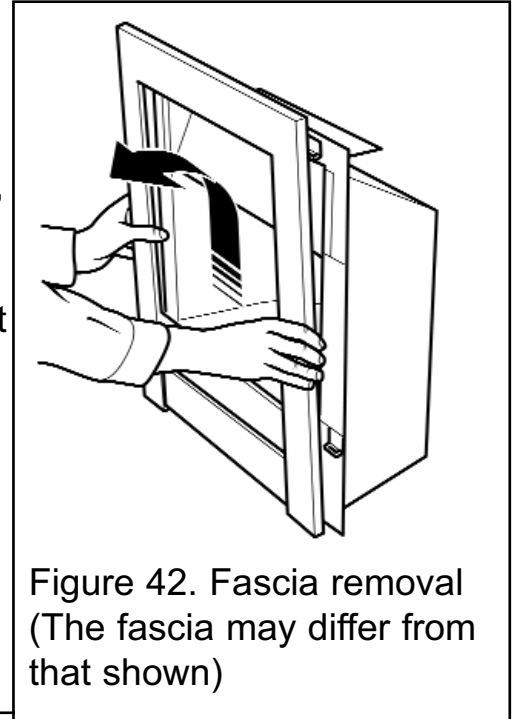

Figure 42. Fascia removal
2. The fascia is held in place by four retaining plates at the back of the fascia. These slot into four retaining brackets on the hotbox. To remove the fascia, hold the sides of the fascia and lift upward and forward. The fascia should lift clear of the hotbox (See figure 42).